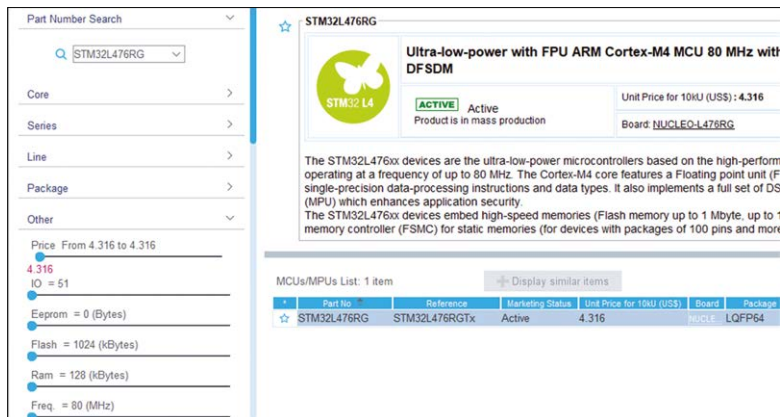

Figure 5.5: Select the MCU.
- Enter **STM32L476RG** in textbox **Part Number Search** and then click on STM32L476RG to select the MCU as shown in Figure 5.5. You will also see brief specifications of the selected MCU at the top middle part of the screen.